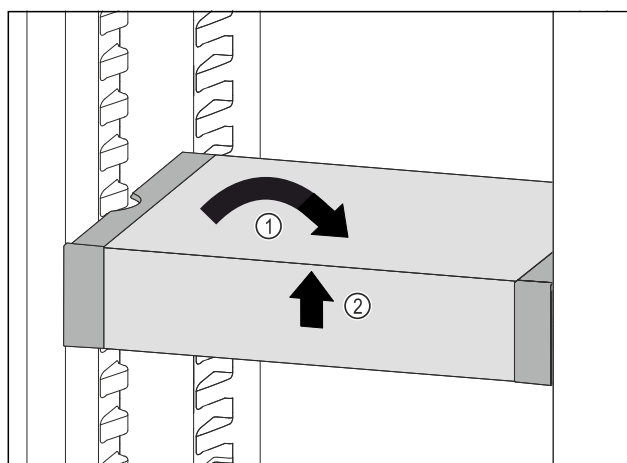

Fig. 108
- Set VarioSafe straight. Fig. 108 (1)
- Lift VarioSafe at the front. Fig. 108 (2)